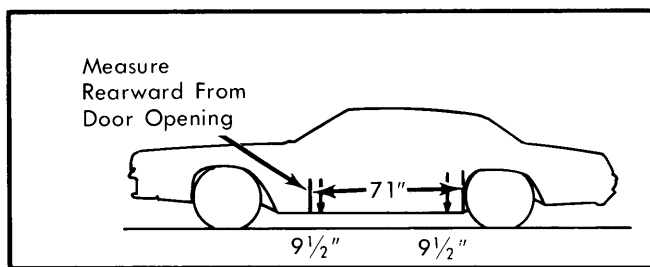

Fig. 32 Riding Height Measuring Points (Oldsmobile Tornado)
2) Measure heights from bottom of rocker molding to floor at points indicated in Fig. 32. Measured heights may differ side-to-side or front-to-rear by $\pm 3/4$ ".